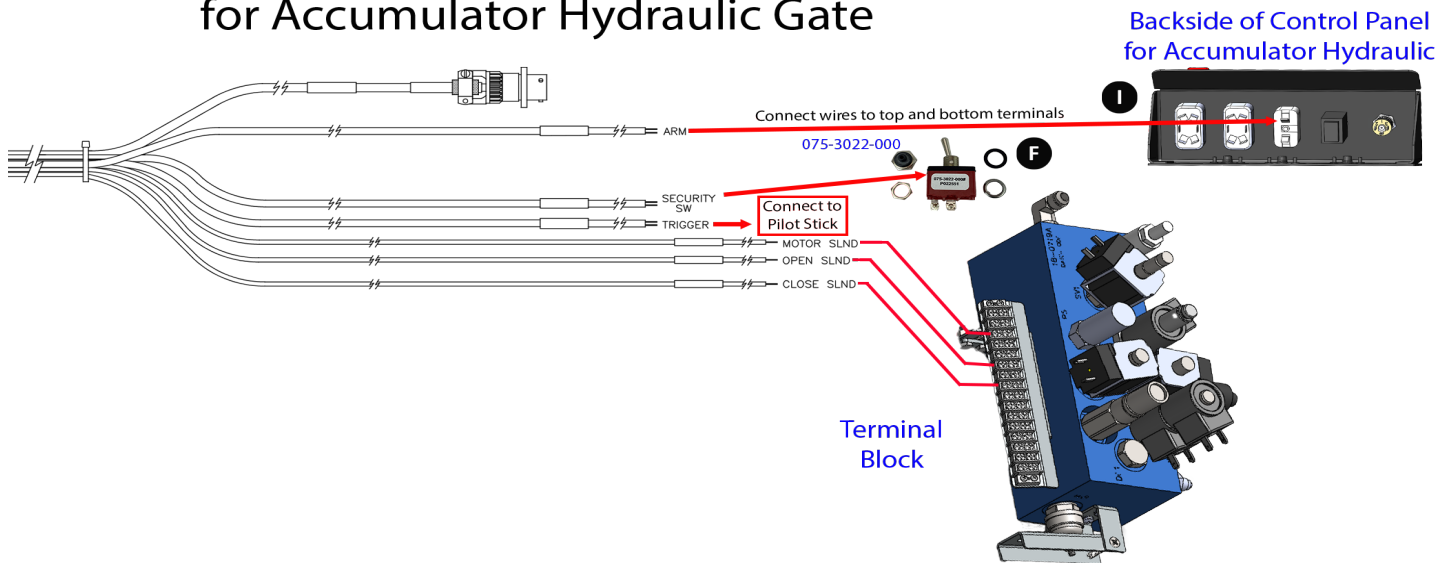

Figure 2: Display of How to Connect the Wires of Cable E for an Accumulator Hydraulic Gate
9. See Figure 1 Dry Flow Connections - Transland Standard Hydraulic Gate or Figure 2 Dry Flow Connections - Transland Accumulator Hydraulic Gate to connect Cable E to the control panel (part #27676 for standard hydraulic gate or part #27677 for accumulator hydraulic gate).